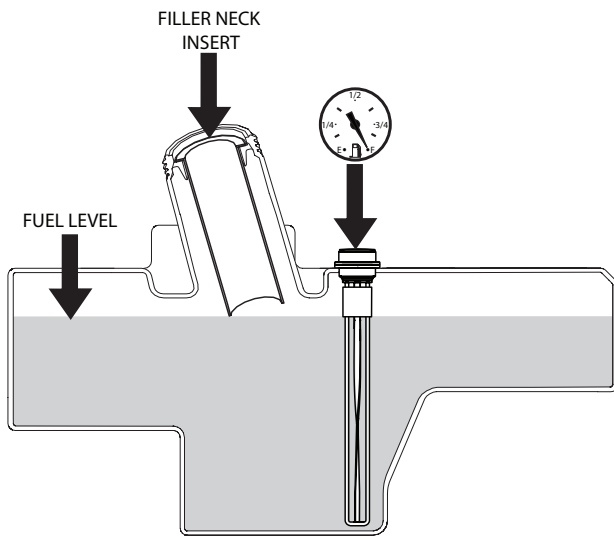

Figure 7-6. C.A.R.B. / EPA Phase 3 Fuel Level
Fill to the bottom of the filler neck insert (approximately 12 gallons indicating Full (F) on the fuel gauge) at the beginning of each operating day. See Figure 7-6. Do not overfill. Use clean, fresh unleaded gasoline with a minimum octane rating of 87 and a maximum of 10% Ethanol.